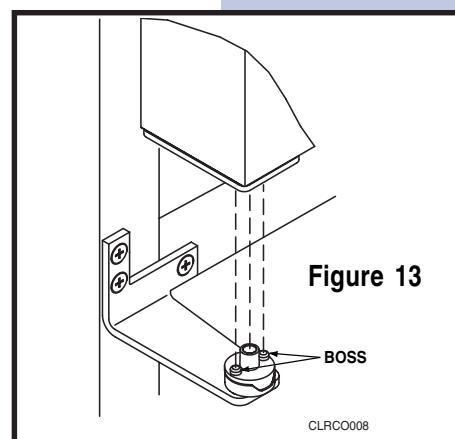

Figure 13
- 7 Holding door upright with top of door tilted forward, place hole of door pivot plate on bottom hinge screw pin (see **Figure 13**). Be sure that the bosses on the closers align with holes in hinge and hinge plate.